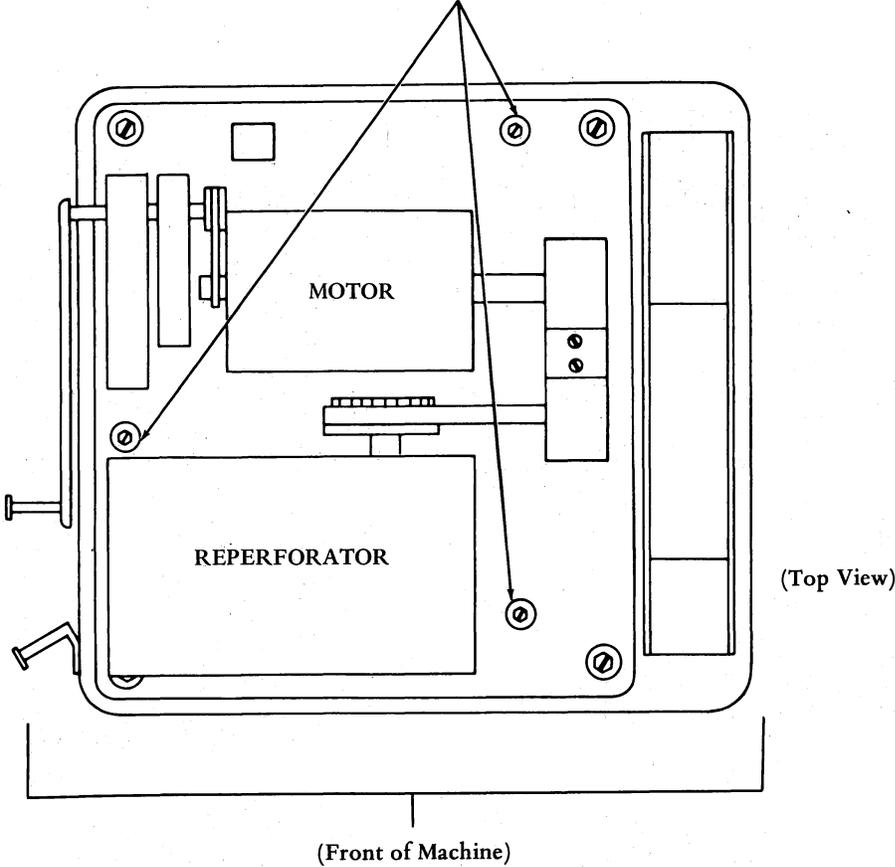

Figure 3 - Base Mounting Hardware
- (1) Cut container around its perimeter, approximately one inch from bottom. Lift container from set.
- (2) Remove tape reel from side of top packing detail. Remove detail from set.
- (3) Remove the two packing details from side of set.
- (4) Remove all tape from exterior of set. Lift set out of bottom packing detail.
- (5) Open table door. Remove all packing material.
- (6) Disassemble cover lid and tape winder arm.
- (7) Remove tape from pulley housing and from chad scale (when equipped).
- (8) Remove three screws, lockwashers, and flat washers to mobilize reperforator baseplate; save mounting hardware, if intend to reship (Figure 3).
- (9) Secure cover lid to top of set.
- (10) Mount plastic tape reel.